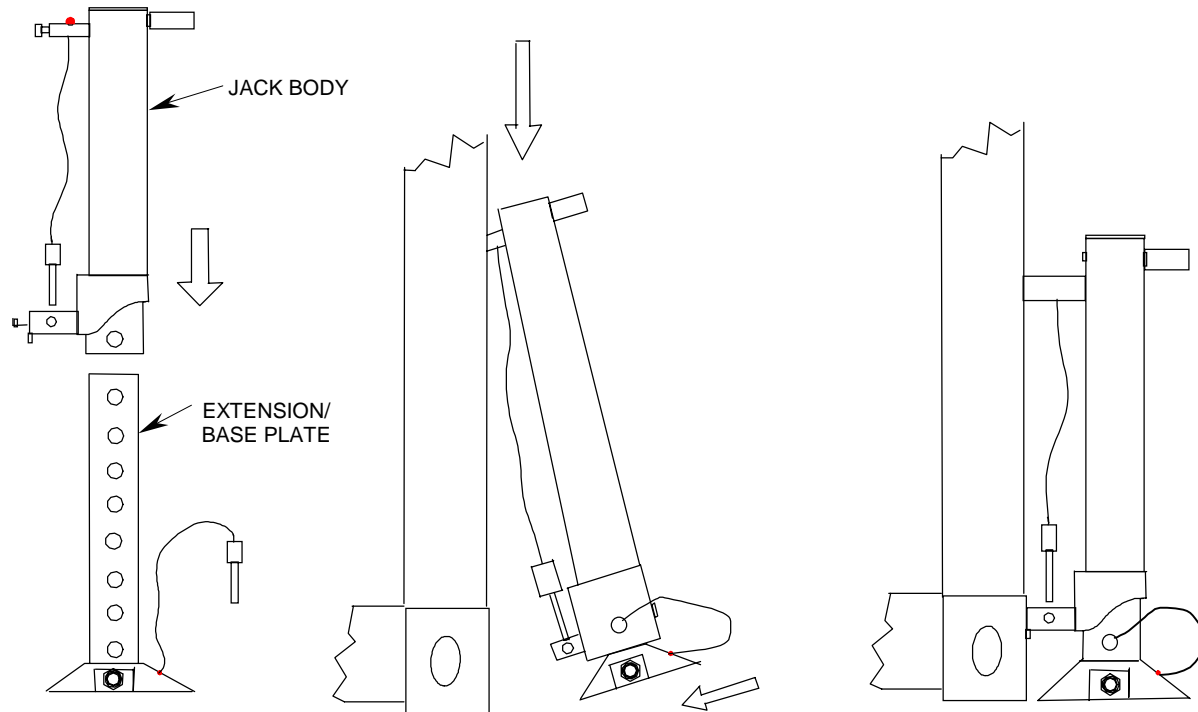

Figure 2. Corner Jack Installation.
5. Referring to Figure 2, insert a corner jack extension/base plate into each corner jack body as far as it will go. Align the bottom hole in the extension/base plate with the hole in the jack body and insert the attached locking pin to hold the extension/base plate in place. Using a jack/winch handle, ensure that the jack mechanisms are rotated fully counter-clockwise (lowered).
7. The corner jacks will first be installed at the personnel door end of the container. Referring to Figure 2, and starting at either corner, attach a corner jack by inserting the studs on the jack into the end holes in the corner block. Turn the twist lock on the lower stud 90° in either direction to line up one of the arrows stamped on it with the hole in the stud. Pull the jack back slightly so the twist lock contacts the inside of the corner block. Insert the attached locking pin into the twist lock.